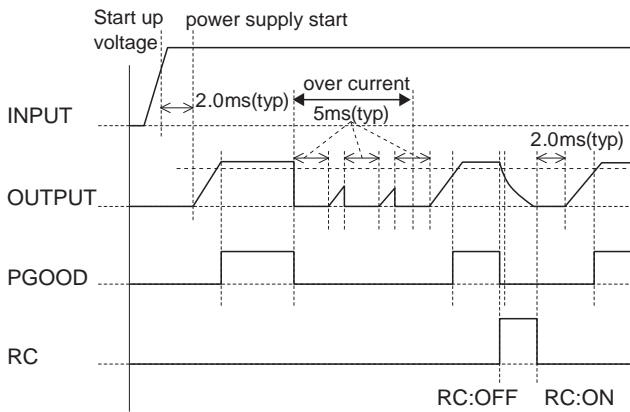

Fig.4.9 Sequence chart of BRNS
■Fig.4.9 is a sequence chart of each function of BRNS.